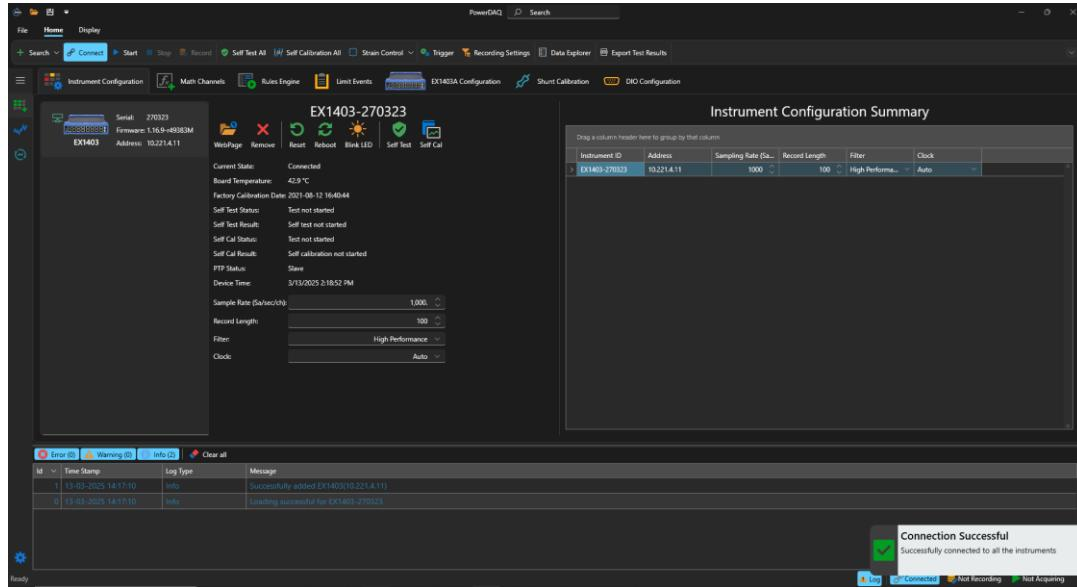

Figure 19. Instrument Connected
6. Connect to the instrument by clicking the Connect button. Refer to Figure 19.
2. Configure the sampling rate, record length, filter, and clock source as shown in Figure 19.